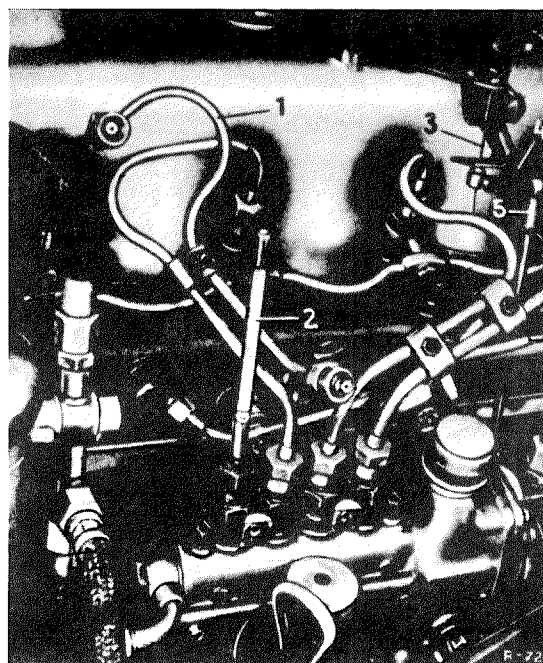

Fig. 30-10/2
The removal and installation procedures for the control knob and cable are essentially the same as for Model 180 D with the difference that the idle adjustment control cable (3) is attached to the angle lever (4) instead of to the throttle valve lever of the venturi control unit. An adjusting screw has been installed on the bearing bracket of the angle lever on the cylinder head cover to make it easier to adjust the control cable accurately (Fig. 30-10/2).